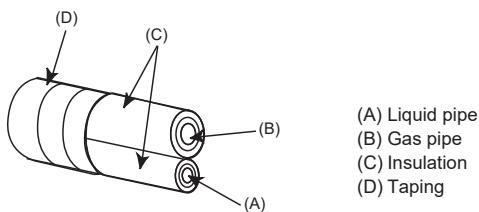
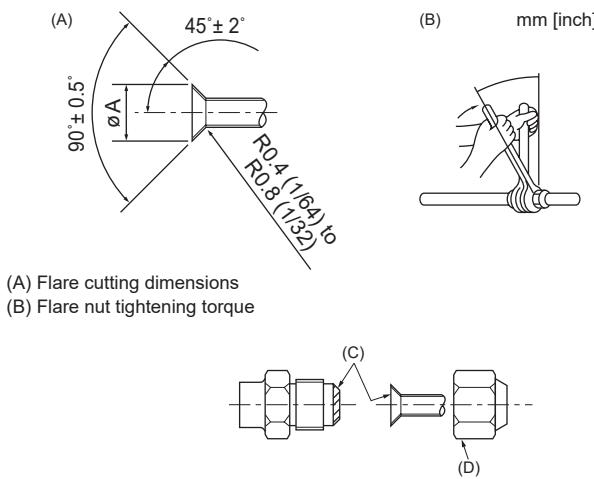

Fig. 4-1
Fig. 4-2
(A) (Fig. 4-1)
(B) (Fig. 4-1)
4.2. Connecting pipes (Fig. 4-1) (Fig. 4-2)
When commercially available copper pipes are used, insulate both the liquid and gas pipes separately with commercially available insulation materials (heat-resistant to 100 °C, 212 °F or more, thickness of 12 mm, 1/2 inch or more). (Fig. 4-1)
- The indoor parts of the drain pipe should be wrapped with polyethylene foam insulation materials (specific gravity of 0.03, thickness of 9 mm, 23/64 inch or more). [Fig. 4-2]
- Apply thin layer of refrigerant oil to pipe and joint seating surface before tightening flare nut. (A)
- Use 2 wrenches to tighten piping connections. (B)
- Apply refrigerating machine oil over the entire flare seat surface. (C)
- Use the flare nuts for the following pipe size. (D)